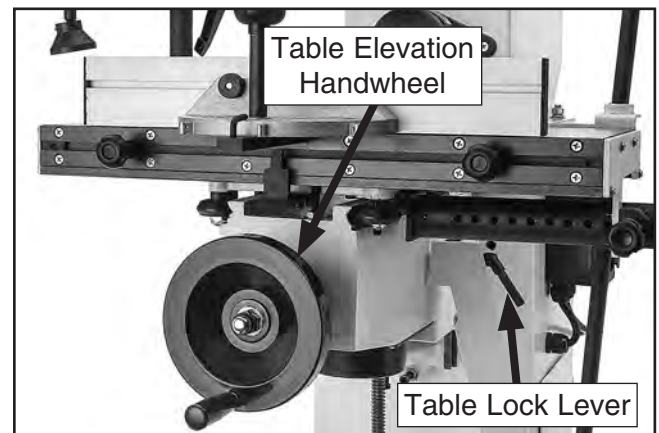
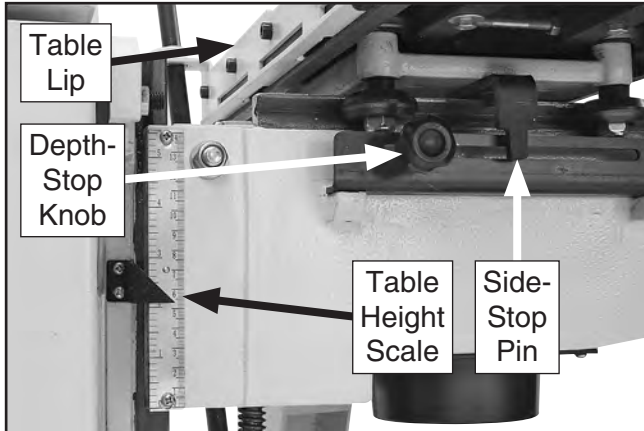

Figure 18. Table elevation adjustments.
Figure 19. Table height and depth stop adjustments.
The Model G0846 has a handwheel to move the table up and down up to 5½". A scale on the left rear side of the table measures vertical table movement (see **Figure 19**). A lock lever on the right side of the knee secures table elevation height.
- Loosen table lock lever, then rotate handwheel to adjust table height (see **Figure 18**). Refer to scale as needed (see **Figure 19**).
- Loosen depth-stop knob and push table toward chuck until bit extends beyond table lip (see **Figure 19**) for drilling operation. Place a tape measure or ruler against fence face to measure bit depth.
4. Move depth-stop knob against side-stop pin to match position measured in **Step 3** (see **Figure 19**). Tighten knob.